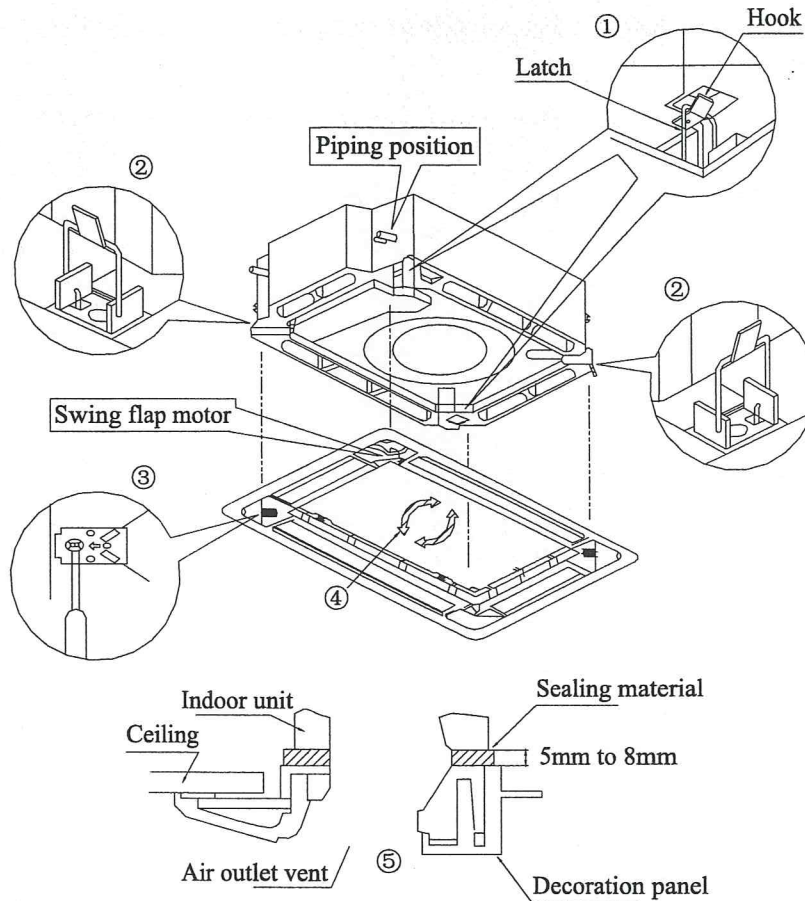

Fig.13
1. Set the panel to the indoor unit body by matching the position of the swing flap motor of the panel to the piping position of the panel to the piping position of the indoor unit as shown by fig.13.
① Install the panel on the indoor unit temporarily. When install, hang the latch on the hook that is located on the opposite side of the swing flap on the panel of the indoor unit. (2 positions)
② Hang the remaining 2 latches to the hooks on the sides of the indoor unit.(Be careful not to let the swing motor lead wire get caught in the sealing material.)
③ Screw the 4 hexagon head screws under the latches in about 15mm. (The panel would rise)
④ Adjust the panel by turning it toward the direction pointed by the arrow as shown in fig.13, so that the adjust board connect the ceiling well.
⑤ Tighten the screws until the thickness of the sealing material between panel and indoor unit reduced to 5-8mm.